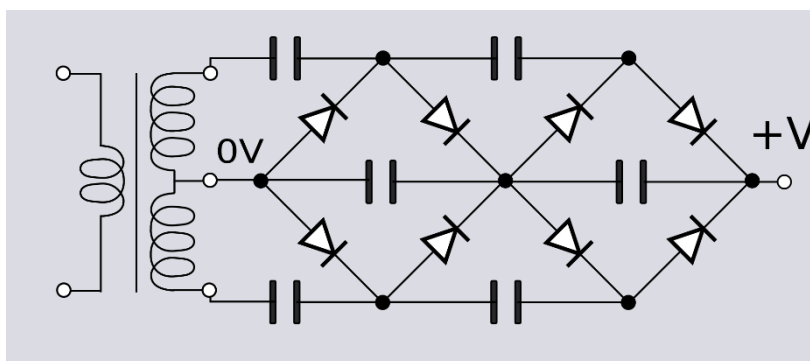

Figure 13: Two-Stage Full-Wave Cockcroft-Walton Generator
- In the figure 13 the transformer is used to explain the design of the full-wave voltage multiplier. In my improvement the transformer will not be exist to decrease the cost of the circuit. Instead of transformer two AC voltage sources with opposite polarities, in other words sharing the same ground, will be used.